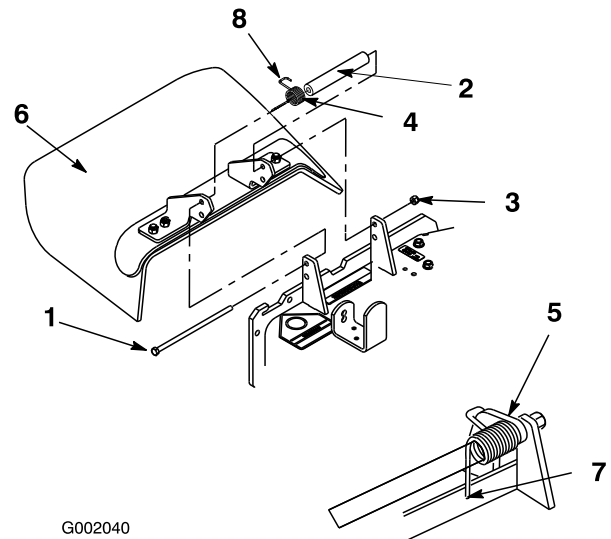

Figure 65
Note: Make sure the L end of the spring is installed behind the deck edge before installing the bolt as shown in Figure 65.
3. Install the bolt and nut. Place the **J** hook end of the spring around the grass deflector (Figure 65).
1. Remove the locknut, bolt, spring and spacer holding the deflector to the pivot brackets (Figure 65). Remove the damaged or worn grass deflector.